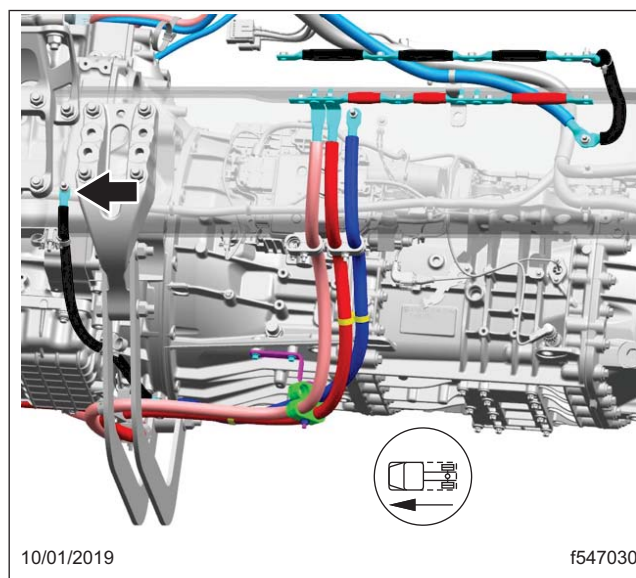
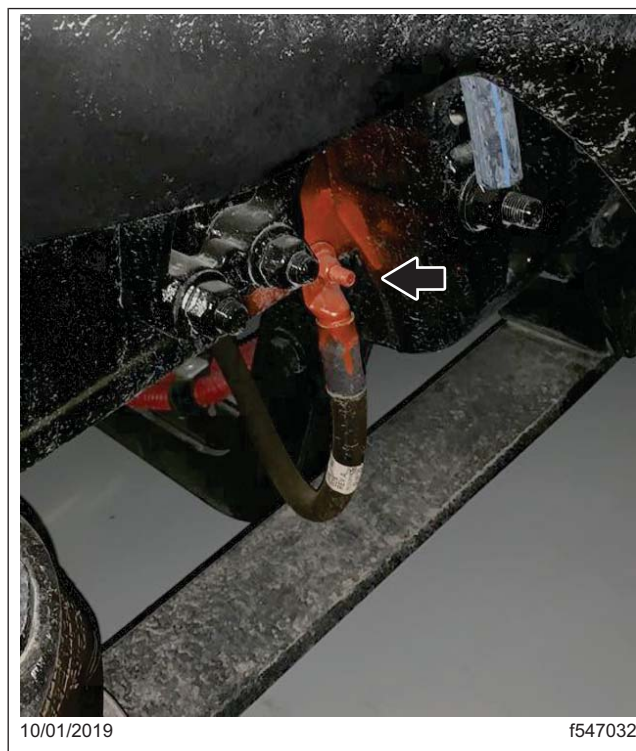

Fig. 4, Location for the Ground Strap
Fig. 5, Ground Stud on the Left-Hand Side of the Vehicle
- 5.1 Check to see if the battery box is mounted between the frame rail. On vehicles that have a battery box mounted between the frame rail, there is a ground strap running from the flywheel housing to the left-hand side frame rail. This is the most accessible frame rail stud for mounting the redundant ground strap. See Fig. 4.
- 5.2 If the vehicle has an under-cab battery box, check for a ground stud on the left side outer frame rail. There will be a difference between applications with frame rail battery box mounting and an under-cab battery box mounting, depending on the 282 data code for the build. Vehicles with an under-cab battery box mounting will not have the ground mounting stud, as shown in Fig. 5. In this case, the best location is the GNDP stud shown in Fig. 4.